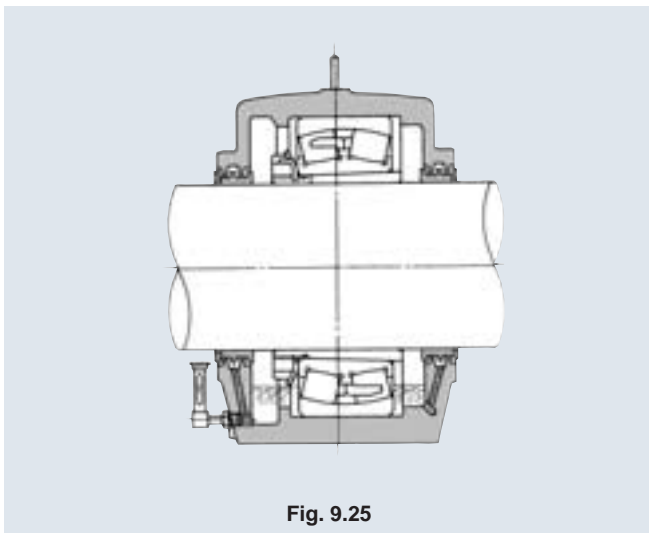

Fig. 9.25
- (5) If the bearing is lubricated with grease, fill the bearing interior with grease, and apply grease to the mating surfaces of the upper and lower plummer block housings. Also, apply grease to the sliding surface of the seal. In the case of a self-aligning roller bearing, incline the outer ring to allow a sufficient volume of grease to be packed into the gaps between the rollers and the cage. (For the volume of grease, refer to Section 11.)
- (6) In the case of oil-lubricated bearings, fill the oil up to the center of the lowest rolling element. (See **Fig. 9.25**.)